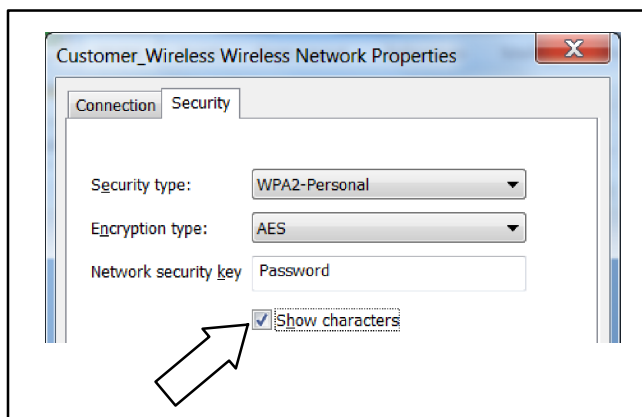

Figure 19 Security Settings
- 12.4 Click on Show characters to see the required security settings for the wireless access point. See Figure 19.